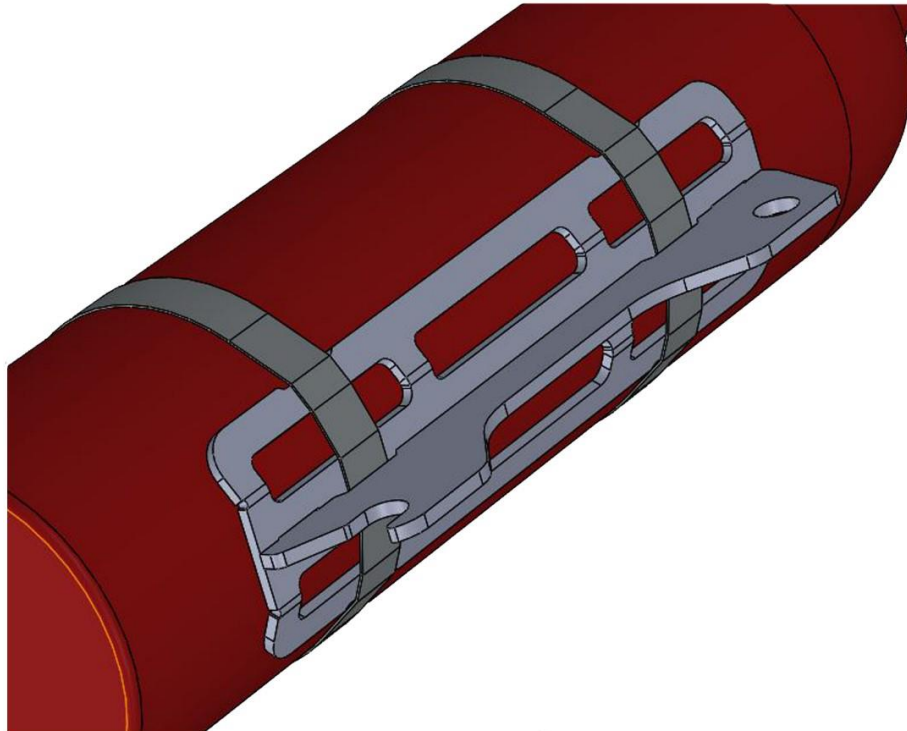

Figure 5-1
5. Pull quick release pin and remove fire extinguisher mounting bracket. Attach the two hose clamps by insert through the mounting bracket slots.(fig 5-1)